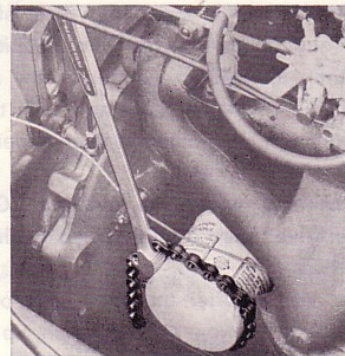

Fig. 11. Removing the oil filter (B 18)
1. Remove the old filter with the help of chain tongs as shown in Fig. 11.